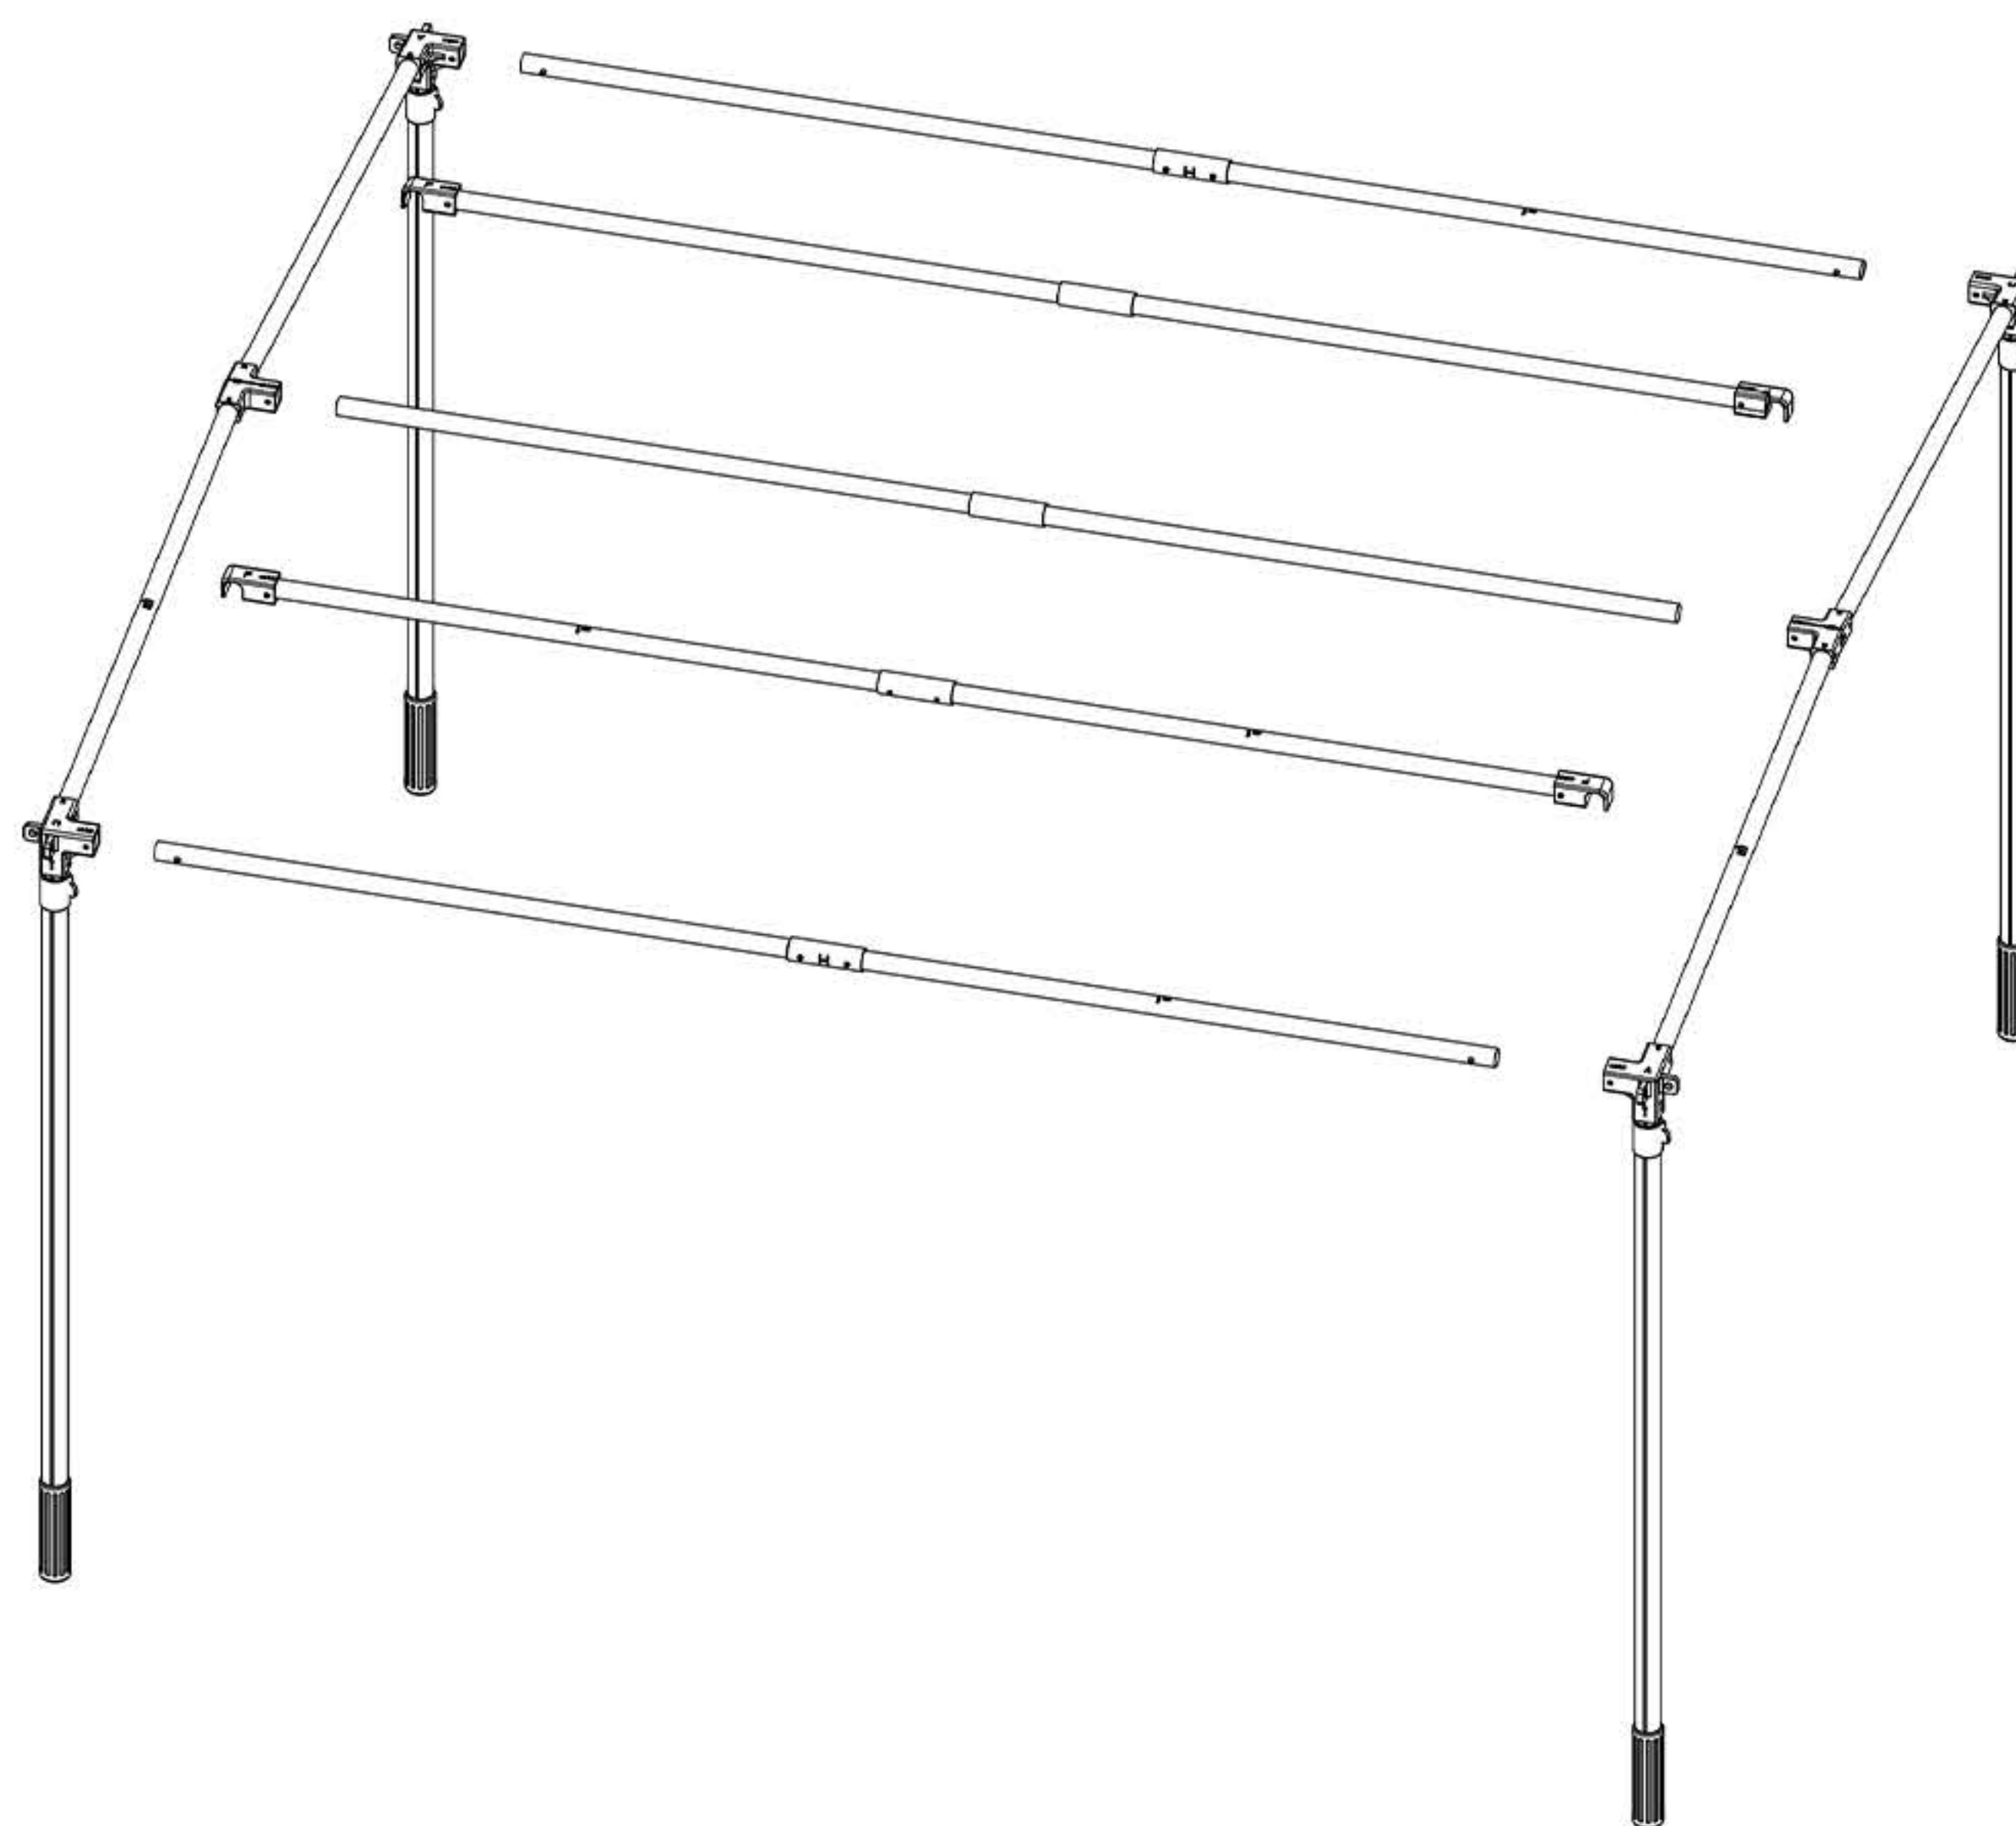

Figure 2 - Assembly diagram
- Assemble components 2.1 to 2.4 in sequence according to Figure 2.